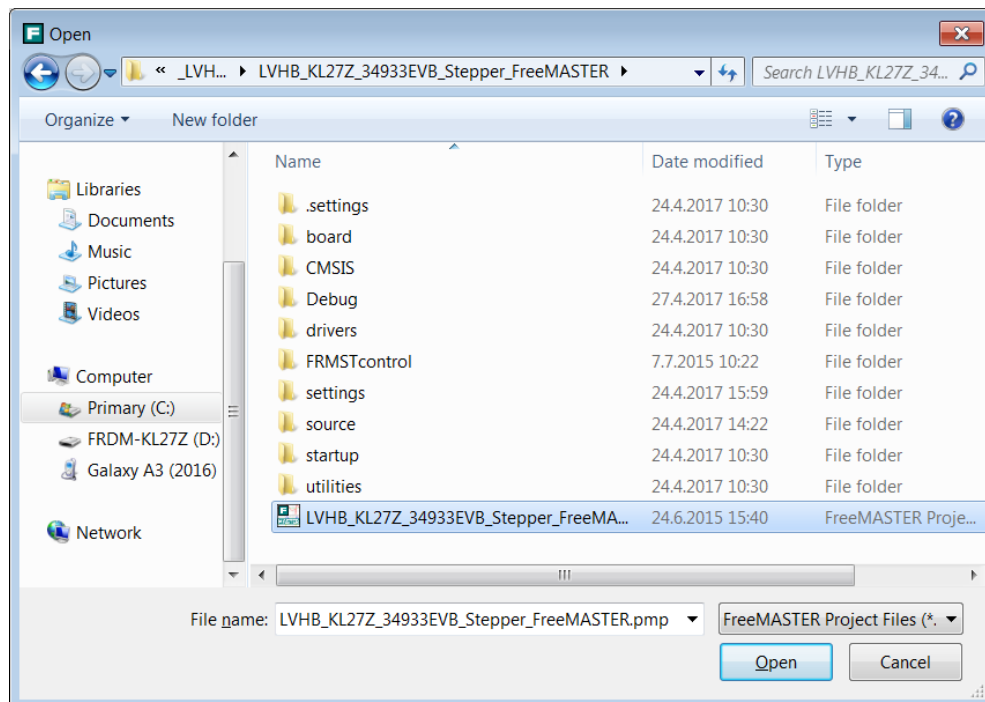

Figure 5. Selection of FreeMASTER project
3. Locate FreeMASTER project file (.pmp) in the example project folder: LVHB_SDK_SW\KDS_Examples\LVHB_KL27Z_34933EVB_Stepper_FreeMASTER. Select **LVHB_KL27Z_34933EVB_Stepper_FreeMASTER.pmp** file then click Open (see Figure 5).